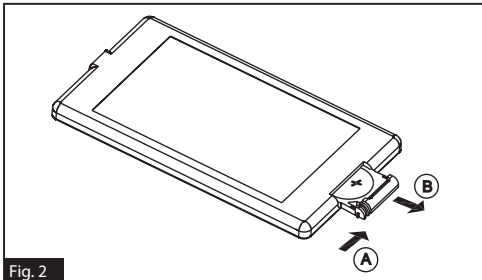

Fig. 2
2. Press the movable block hold in the direction indicated by arrow A (Fig.2), then pull the battery holder out of the remote control as the direction indicated by arrow B. (Fig.2)